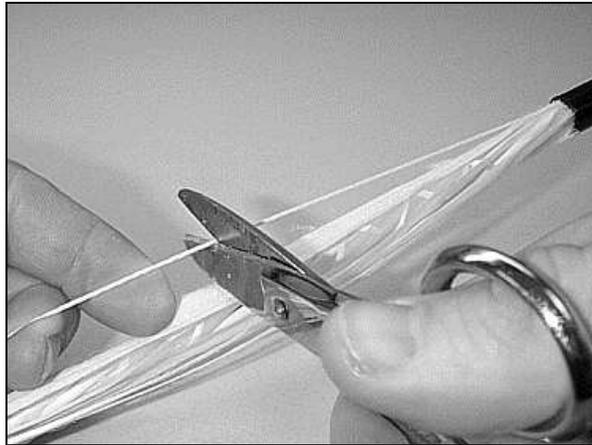

Figure 18 - Cut the ripcord in the center of the exposed length.
6.7 Locate the ripcord and cut it in the middle to make two 5 inch rip cords (Figure 18).